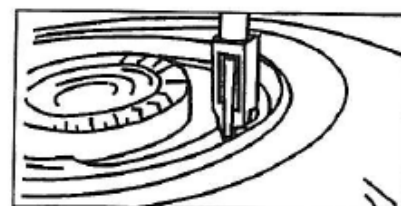

Figure 5
4. Stop breaking the tire bead when you have moved the bead breaker about  $\frac{3}{4}$  of the way around the rim. (Fig. 5)